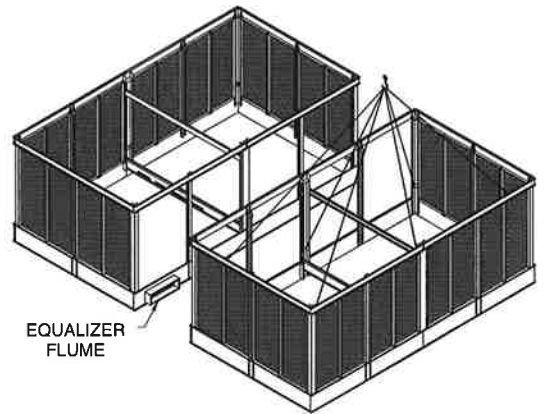

Figure 6 – Equalizer Flume Rigging Detail showing two bottom sections and one equalizer flume.
5. Rig the second bottom section adjacent to the equalizer flume on the steel support as shown in Figure 6.